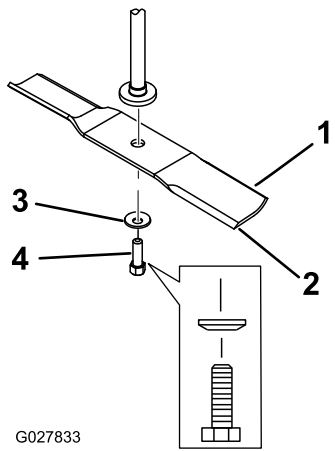

Figure 60
2. Remove the blade bolt, curved washer, and blade from the spindle shaft (Figure 60).
- Install the blade onto the spindle shaft (Figure 60).
- Install the curved washer (cupped side toward the blade) and the blade bolt (Figure 60).